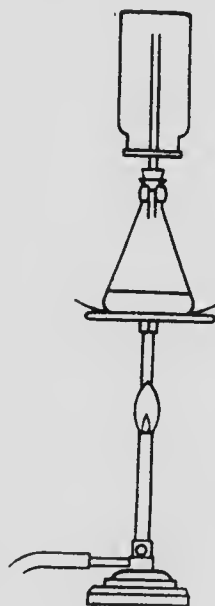

FIG. 46.
**Sketch.**— Fig. 46.
3. Place 10 g. of ammonium chloride and 20 g. of lime in a flask and just cover the mixture with water. **Shake to thoroughly wet the inside of the flask.** Set up the apparatus as shown in Fig. 46. Heat and collect 3 bottles of the gas by upward displacement.